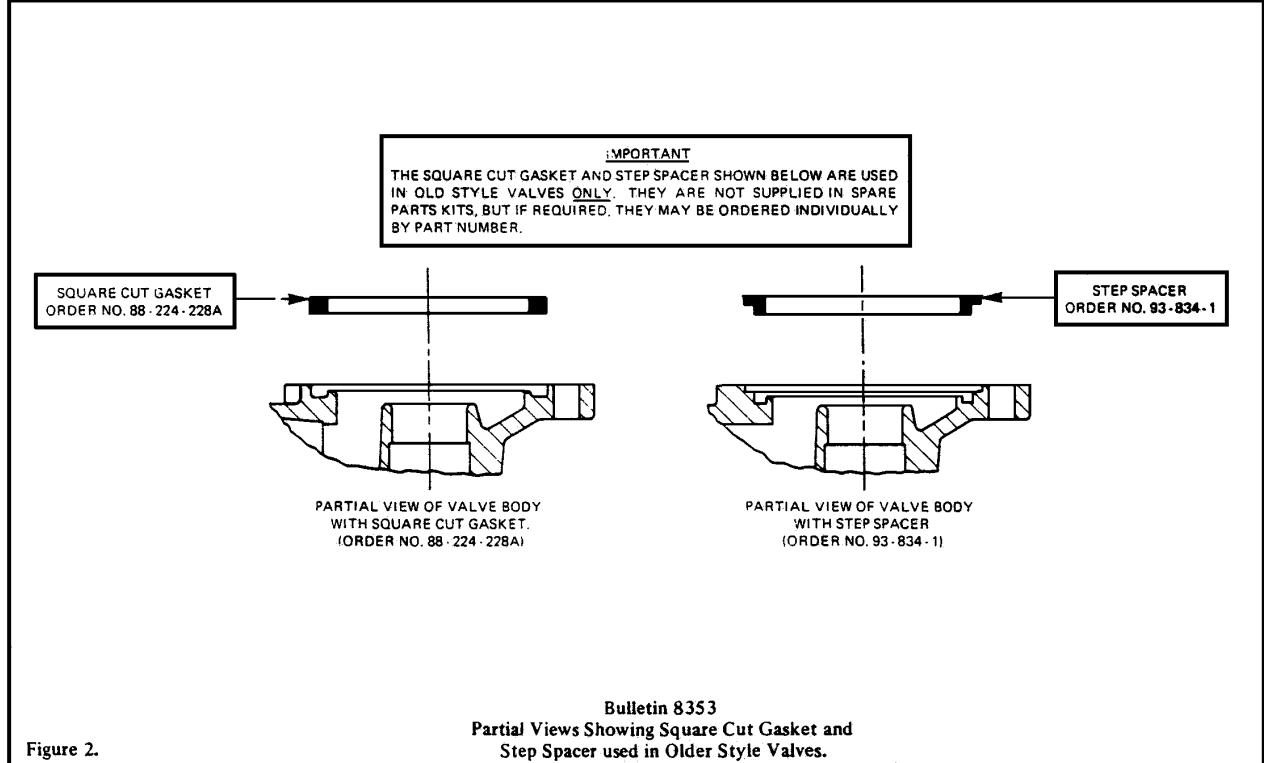

Figure 2.
1. Remove bonnet screws, valve bonnet, diaphragm spring and diaphragm assembly. If the valve you are disassembling contains a square cut gasket or a step spacer as shown in the sectioned view, Figure 2, the square cut gasket or step spacer need not be replaced unless damaged. If a replacement is required, order by the numbers indicated in Figure 2.
Valve Disassembly (see Figures 2, 3 & 4)
4. Replace solenoid base gasket, core assembly with core spring and solenoid base sub-assembly. Note: For core assemblies with internal type core springs, install wide end of core spring in core assembly first, closed end of core spring protrudes from top of core assembly. (see Figure 2)